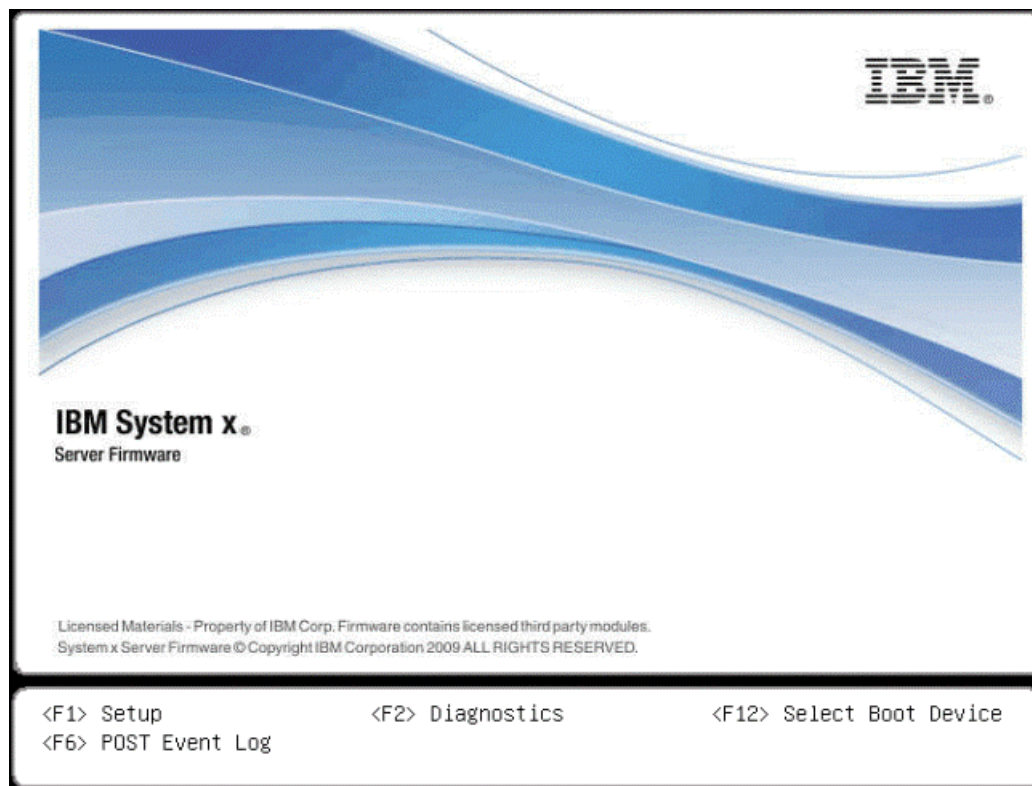
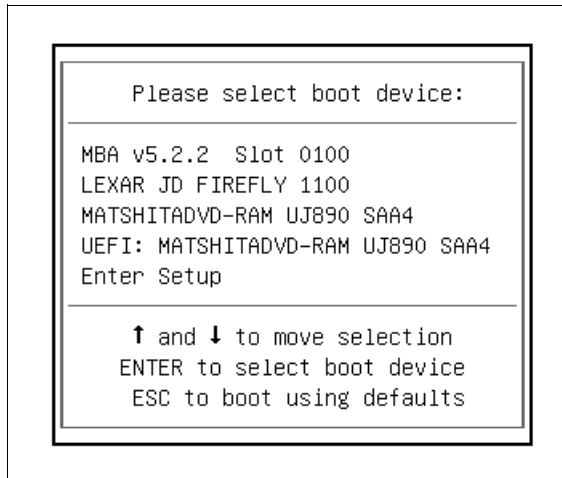

Figure 5-71 F12 to select Boot Device
Figure 5-72 Select DVD to install OS
13. Press F12 to select boot device, then select the CD/DVD ROM (or appropriate source) to install the operating system, as shown in Figure 5-71 and Figure 5-72.